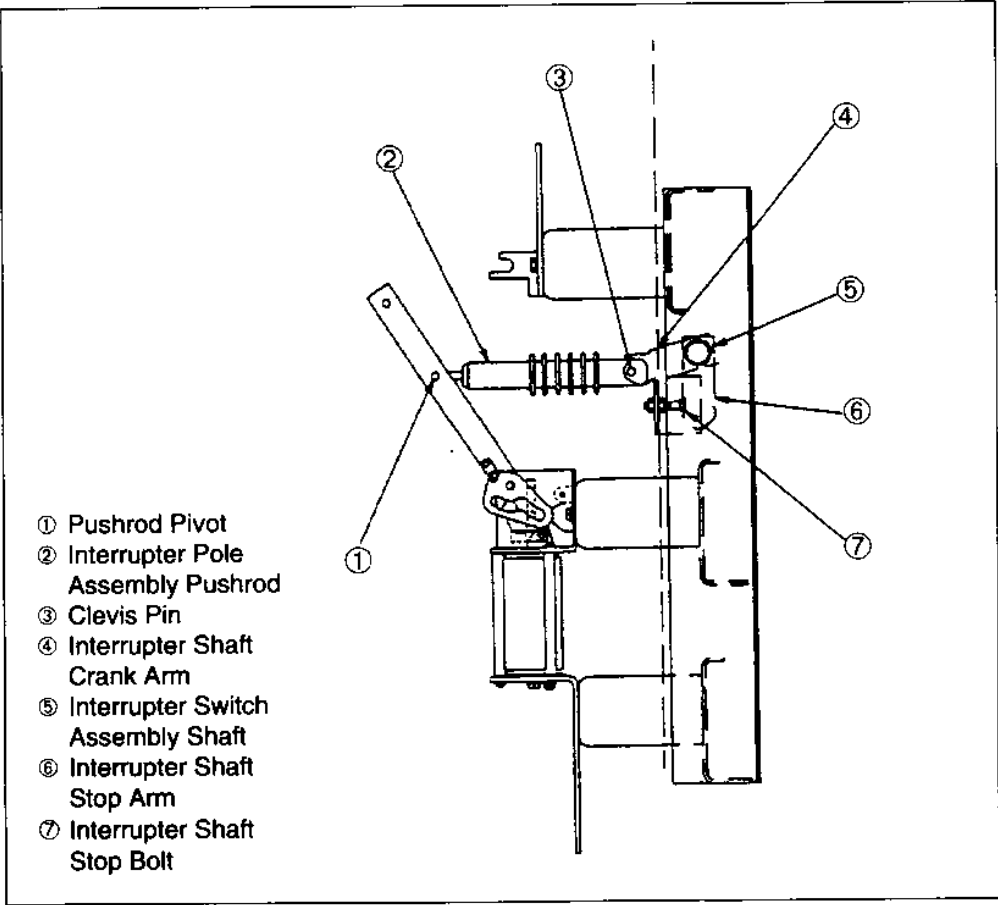

Figure 12: Interrupter closing stop adjustment
Before making this adjustment, be sure that the interrupter shaft stop bolt (figure 12) is not already engaging the interrupter shaft crank arm (figure 12). *While making this adjustment, operate the switch manually only.*
Readjustment is required if a connecting link adjustment has altered the interrupter switch assembly shaft stop adjustment. Refer to figure 12 on page 24, for the parts mentioned in this section.
4. Disconnect all three interrupter pole assembly pushrods from the interrupter shaft crank arms (figure 12, page 24) by removing the cotter pin and clevis pin from each.
5. Disconnect the mechanism/interrupter link assembly (figure 1, page 1) between the mechanism and interrupter switch assembly shaft (figure 12) by removing the cotter pin and clevis pin at the switch operating shaft assembly.
6. Adjust one interrupter pole assembly pushrod until three threads extend through the pushrod pivot. See figure 12.
7. Rotate the interrupter switch assembly shaft (figure 12), and use the clevis pin and cotter pin to re-connect the previously adjusted pole assembly pushrod to the shaft crank. The clevis pin should turn freely.
9. Adjust the two remaining pushrods until the holes in the pushrods line up with the holes in the interrupter shaft crank arms. See figure 12.
10. Re-connect the pushrods to the interrupter shaft crank arms, using the clevis pins and cotter pins (figure 12). When tightened, the clevis pins should still be loose enough to turn by hand.
13. With the interrupter switch assembly open, set the distance between the interrupter shaft stop bolt and the operator shaft stop arm to approximately 0.06" (1.5 mm). See figure 12.